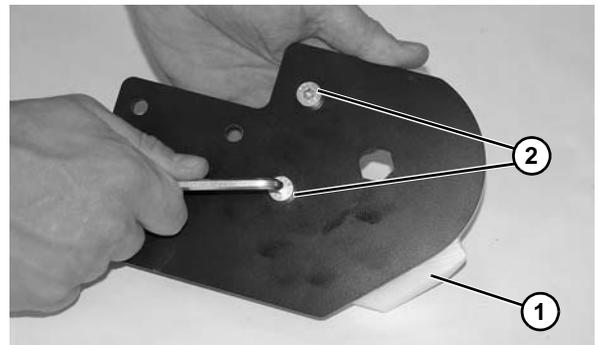

Figure 62
6. Check idler terminal assembly (Figure 62, item 1) for wear. If worn, remove two low head cap screws (Figure 62, item 2) and replace.